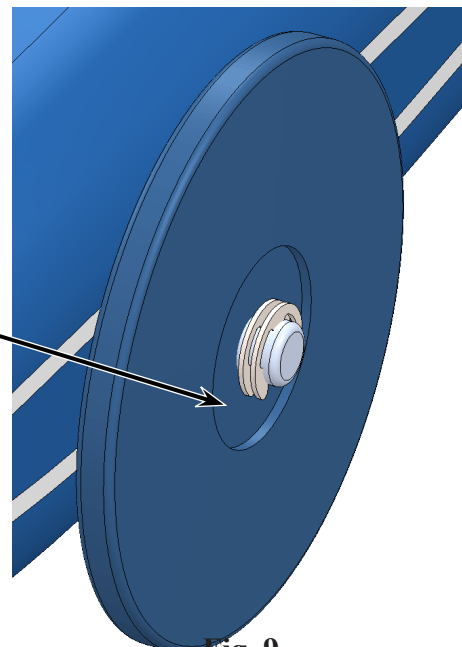

Fig. 9
Step 16. **Browse** and place **FRONT WHEEL** on Front Axle, **Fig. 9**. Place cursor on cylindrical face of Washer and release when cursor changes to indicate a Concentric mate .